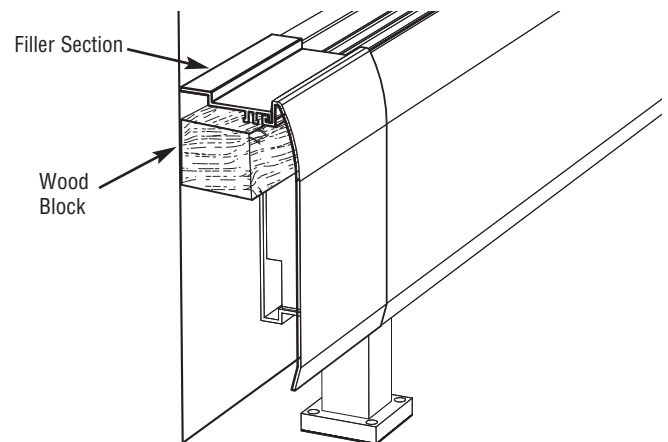

Figure 3 - Filler Section Support (Slim Line Shown)
3. If the filler section is to be mounted between a heater and a wall, a block of wood to support one end of the filler should be attached to the wall level with the top of the heater. See Figure 3.